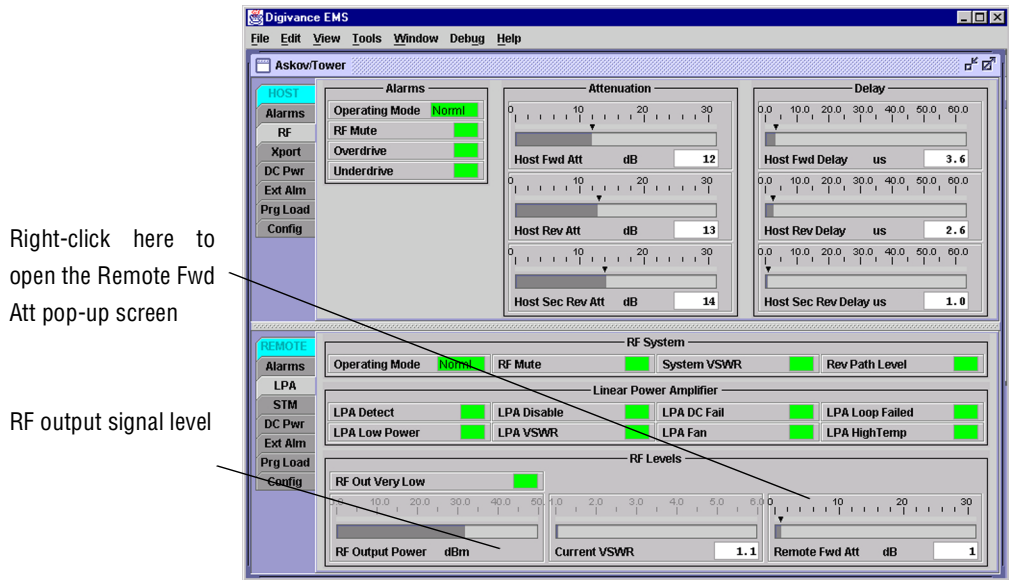
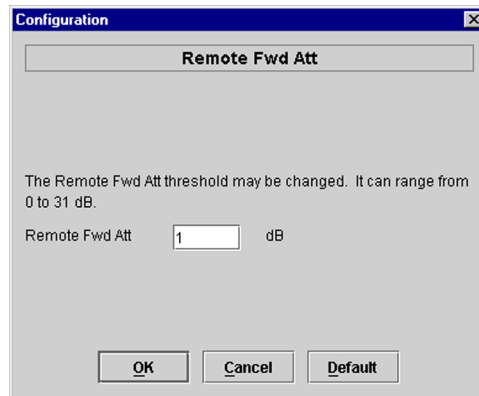

Figure 4-10. REMOTE LPA Display
Figure 4-11. Remote Fwd Att Pop-Up Screen
1. Click on the REMOTE **LPA** tab. The REMOTE **LPA** display will open within the EMS main window as shown in Figure 4-10.
4. Right-click on the **Remote Fwd Att** section of the display (see Figure 4-10). The **Remote Fwd Att** pop-up screen will open as shown in Figure 4-11.
6. Verify that the appropriate RF output signal level appears in the **RF Pwr-VSWR Low** section (see Figure 4-10). This is primarily a reference value and should not take the place of external test equipment when determining the power level of the composite RF output signal. Depending on the modulation type and number of channels, the EMS software may report a power level that is higher or lower than the actual RF output signal.